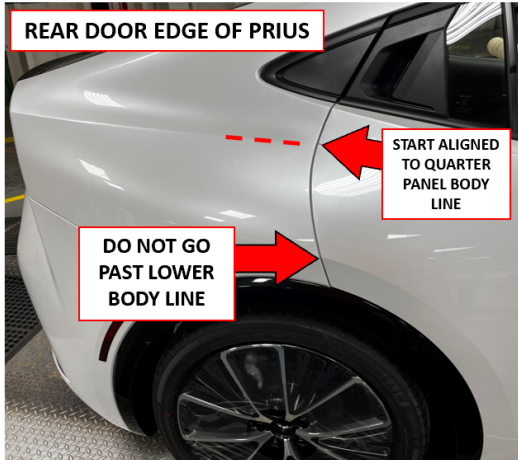
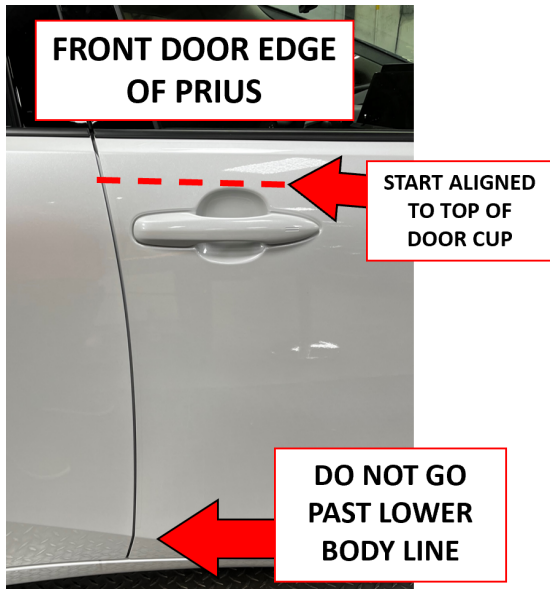
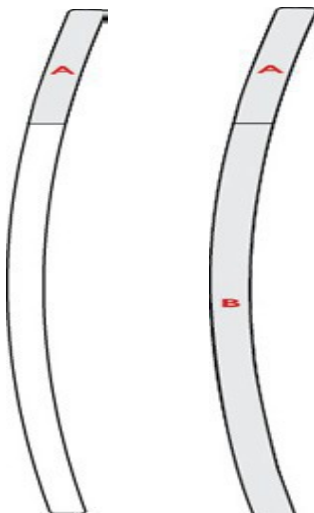

Figure 3.1
Figure 3.2
Figure 3.3
1. Using a straight edge to help with alignment of film strip, start the front door edge aligned to the top of the door cup and do not extend film past lower body line, Fig 3.1. For rear door edges, align strip to top of quarter panel body line and do not extend film past lower body line, fig 3.2 Remove door edge from liner then set the top section, fig 3.3